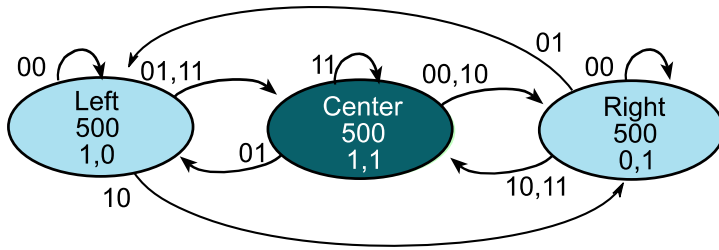

Figure 1. Moore FSM state graph to implement line following. The time in each state is shown in 1ms units.
The **Lab07_FSM** starter project implements the three-state FSM shown in Figure 1, which we could use to implement a line-following robot. The 500 is the time to wait in each state in ms. On the real robot, we set these delay times to be much shorter, depending on how fast the mechanical robot responds to actuator commands. However, in this lab, the 500 ms is chosen to make it easy to see the output with our eyes.
1) The FSM in Figure 1 gets confused (has a bug) if the robot is off little bit to the left (input is 01, and the machine is oscillating between the Left and Center states) and then goes completely off the line to the left (input is 00). In this machine, if it happens to be in the Center state when it goes off the line, it will incorrectly move to the Right state even though the robot went off to the left. You will solve this problem by implementing two left states (so it oscillates between